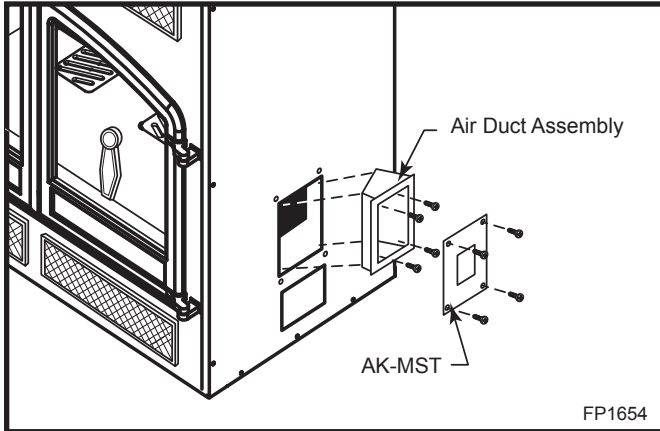

Fig. 14 Air duct assembly.
NOTE: Air duct assemblies must be installed in conjunction with the AK-MST or cold air will enter the home. (Fig. 14)
- Slide the two (2) air duct assemblies provided with the unit into the openings on each side of the unit. (Fig. 14)
- Attach the air duct assemblies to the inside panel with four (4) screws removed in Step 1. (fig. 14)